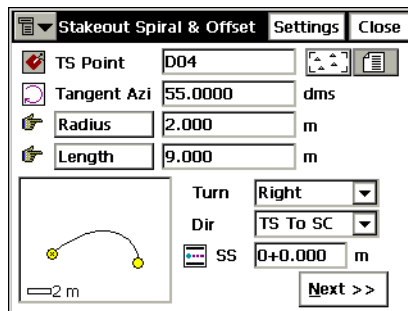

Figure 7-31. Stakeout Spiral & Offset
2. In the *Stakeout Spiral & Offset* screen set the parameters of the spiral to be staked out: the starting point of the spiral, the azimuth of the Tangent of the curve at the PC point, the radius parameter of the spiral, the length parameter of the spiral, the direction of turn, direction of movement of the spiral and the starting station (chainage) of the line (Figure 7-31).